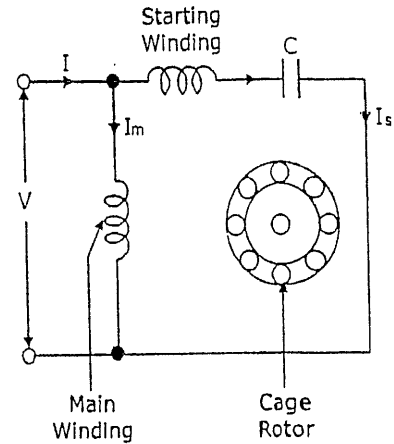

FIG. 4.27 : CAPACITOR RUN INDUCTION MOTOR
- As shown in Fig. 4.27, the two windings, namely; main winding and starting winding are connected in parallel across the supply voltage V . The capacitor C is connected in series with starting winding.